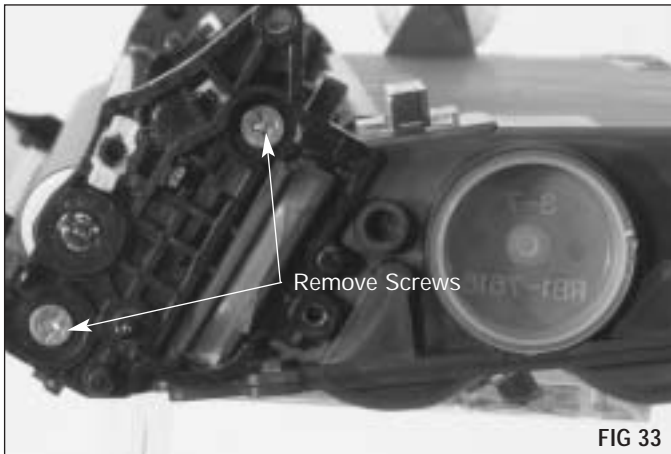

FIG 31
3. Remove the gears behind the End Plate and the Waste Bin Drive Gear. (FIG 31 & 32).